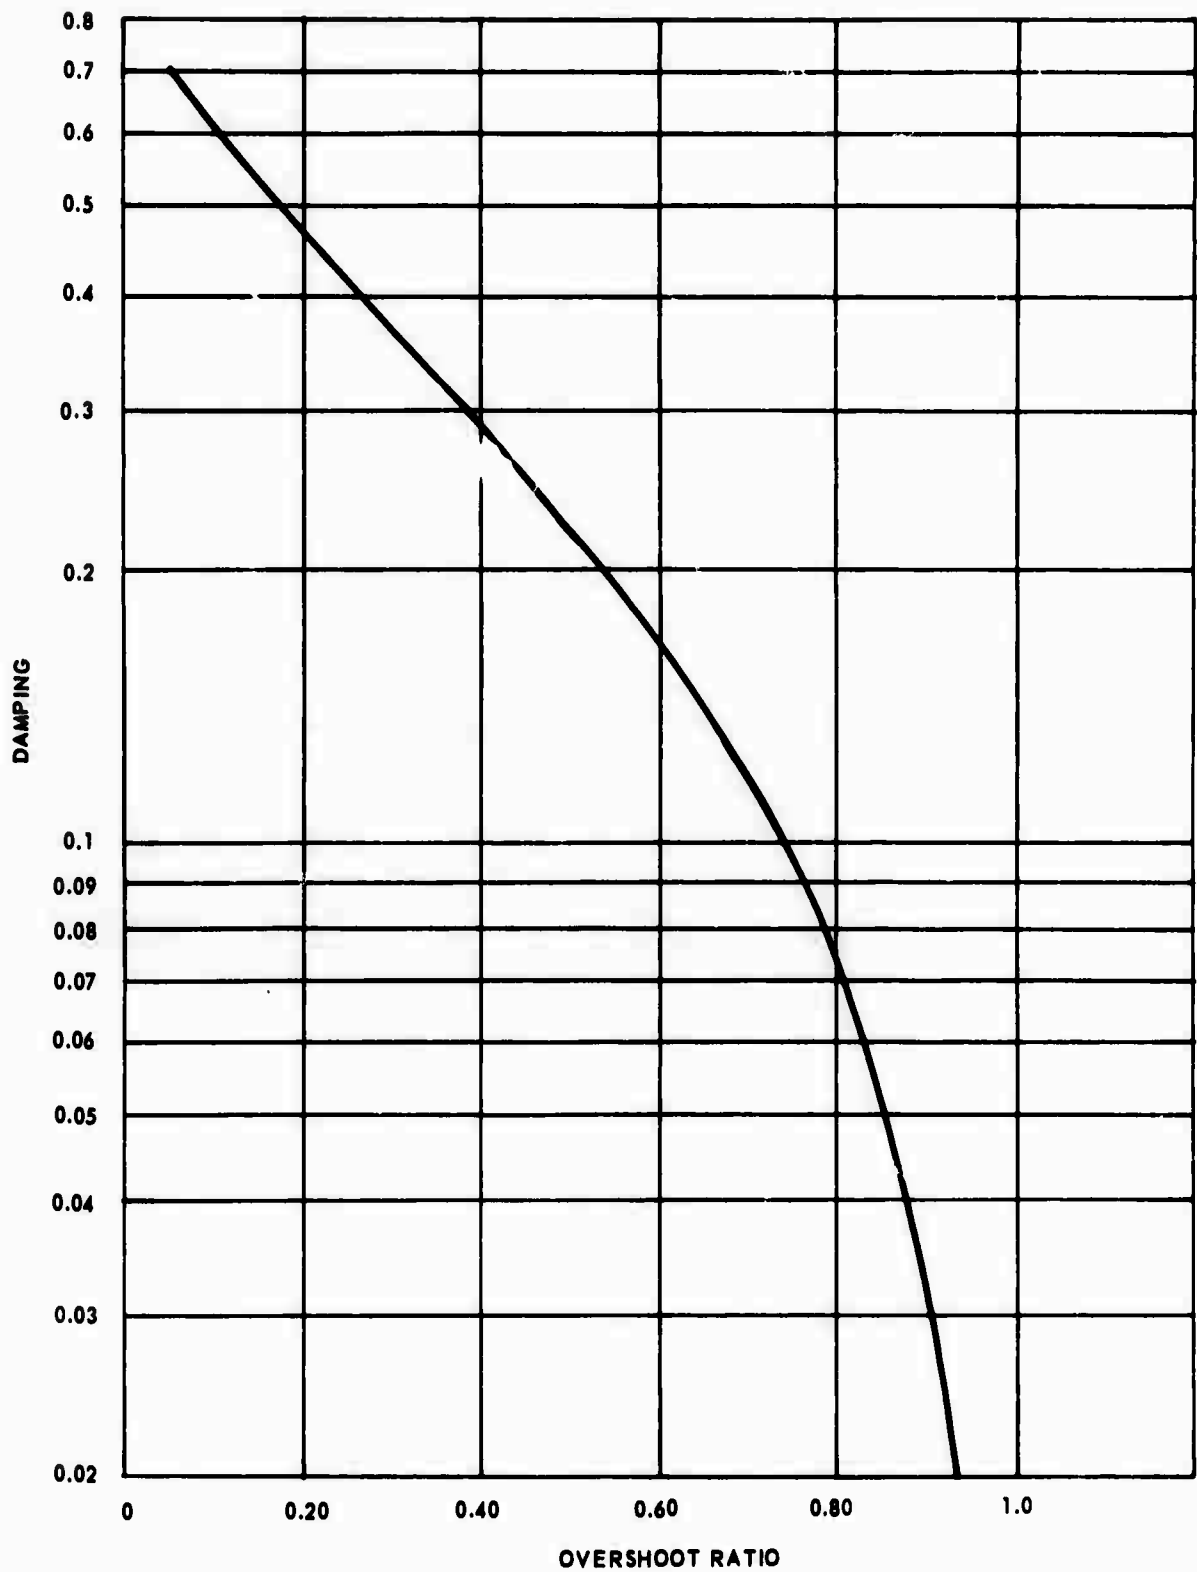
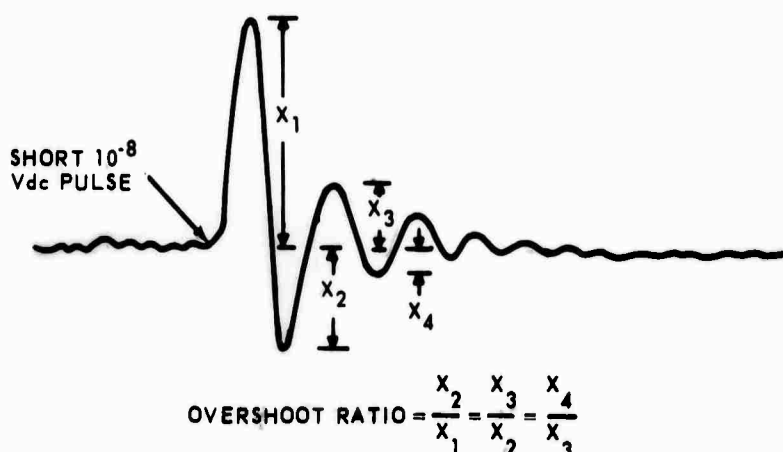

Figure 9. Graph for converting overshoot ratios to damping
Figure 10. Illustration of method for determining overshoot ratio when checking open circuit damping
j. After the overshoot ratio has been determined, refer to figure 9 for galvanometer damping.
illustrated in figure 10. If a VTVM is used, the overshoot ratio will be the peak voltage (from center position) of any half cycle divided by peak voltage of the half cycle immediately preceeding. After calculating the overshoot ratio, refer to figure 9 to determine the damping. Measure the galvanometer natural frequency using the same signal recorded above. The open circuit damping value just determined, will apply for this natural frequency only. If the natural frequency is adjusted, the λ_θ must be rechecked.
$$\lambda_\theta = 0.15 \text{ (from figure 9)}$$
$$\Lambda_g = 0.38 \text{ (from figure 9)}$$